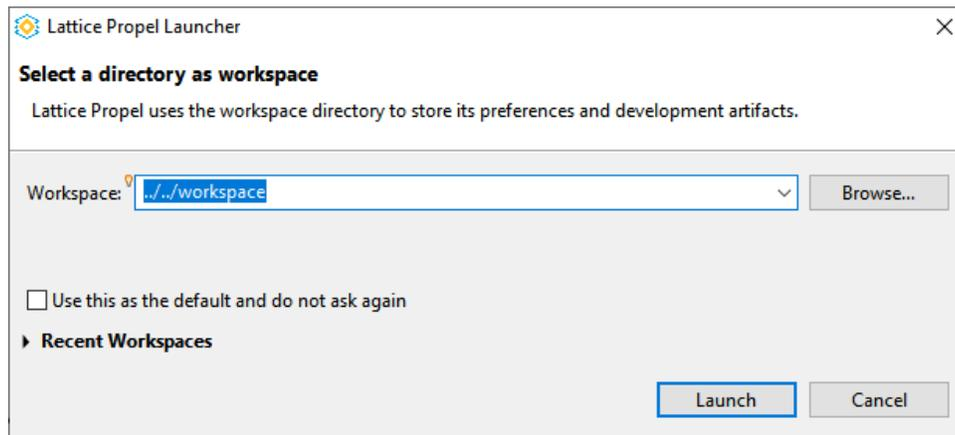

Figure 2.81. Lattice Propel Launcher Wizard
1. Click the **Run Propel** icon  from the Propel Builder GUI Toolbar. Lattice Propel Launcher (Figure 2.81) opens.